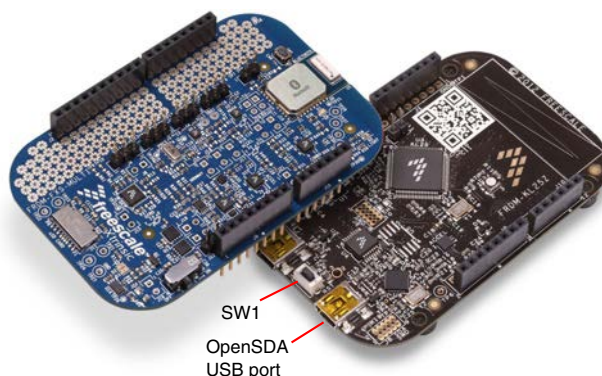

Figure 1. FRDM-FXS-MULTI-B and FRDM-KL25Z
2. Press and hold SW1 on the FRDM-KL25Z, see Figure 1, and plug one end of the USB cable into the OpenSDA USB port on the FRDM-KL25Z and the other end into a USB port on the PC.
This section explains assembly of the kit's hardware shown in Figure 1.